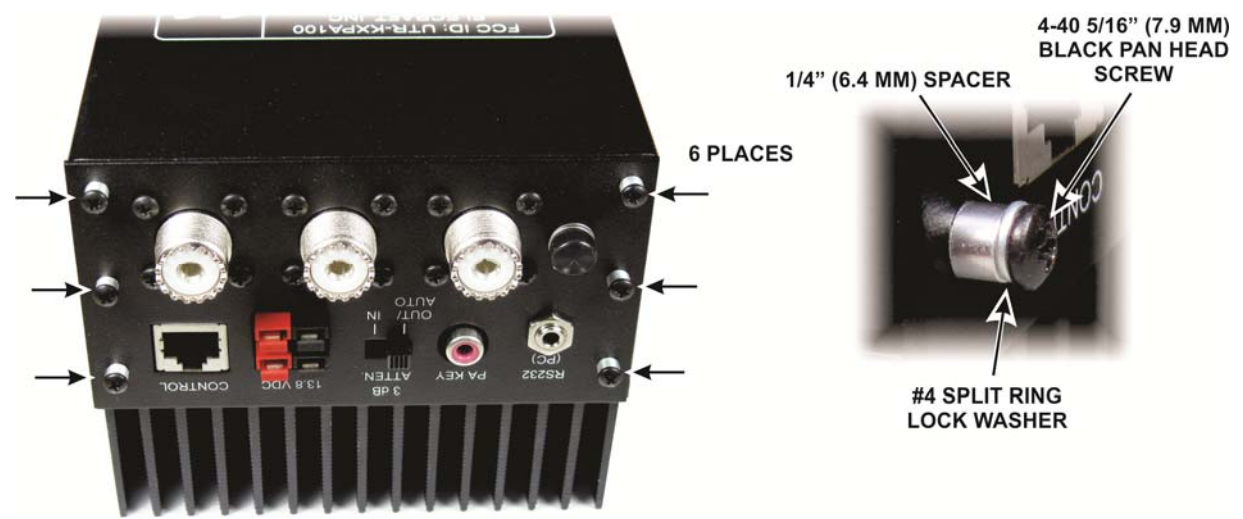

Figure 18. Mounting the Rear Panel.
□ Position the rear panel against the end of the U-Cover so that the Control, 13.8 VDC, PA Key connectors and the 3 dB ATTN switch pass through the openings in the cover. Tuck the coaxial cables into the space between the LPF board assembly and the U-cover as needed. Secure the rear panel with six screws and spacers as shown in Figure 18.